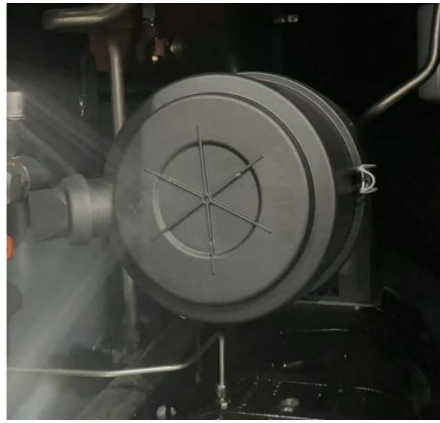

Figure 3-3 Air intake system
Refer to Figure 3-3. The function of the air intake system of the compressor unit is to provide clean air to the compressor. It includes an air filter and an air intake valve.
- 7) Touch "Start" on the homepage shown in Figure 3-3 to start the air compressor check that the operating current and temperature are within the normal range, solenoid valve status is correct, and pressure and temperature changes are normal.